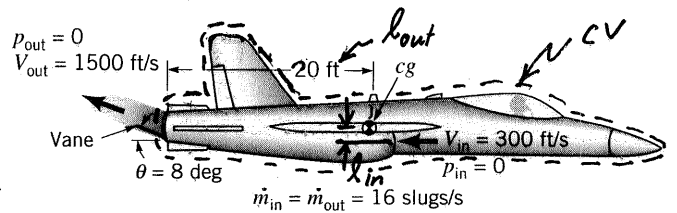

FIGURE P5.35
5.35 Thrust vector control is a new technique that can be used to greatly improve the maneuverability of military fighter aircraft. It consists of using a set of vanes in the exit of a jet engine to deflect the exhaust gases as shown in Fig. P5.35. (a) Determine the pitching moment (the moment tending to rotate the nose of the aircraft up) about the aircraft's mass center (cg) for the conditions indicated in the figure. (b) By how much is the thrust (force along the centerline of the aircraft) reduced for the case indicated compared to normal flight when the exhaust is parallel to the centerline?